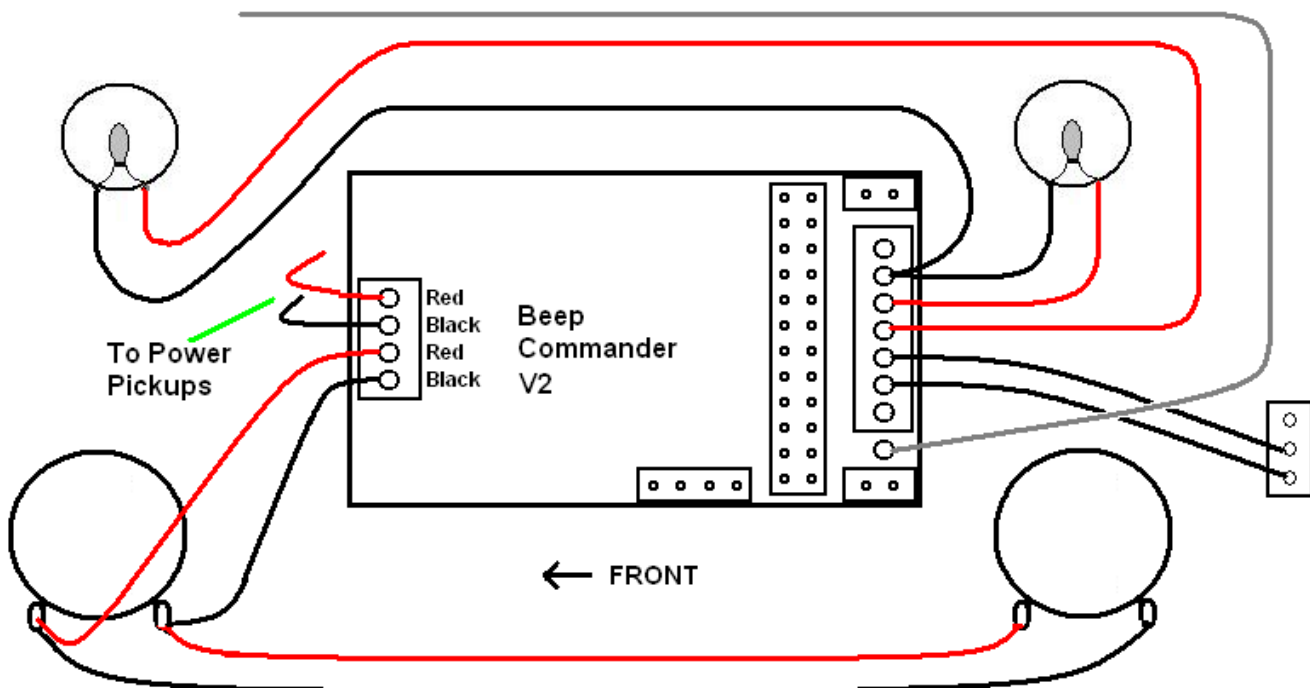

Figure 3
NOTE: Take your time while wiring, strip each wire to $\frac{1}{4}$ " and twist the ends, use your needle nose pliers or tweezers to place the wires; patience is required to make all the connections as shown in Figure 3. Do not over-tighten the screw terminals, or they may break off.
5. Slip the provided new lamp sockets into the holders; the socket with the long leads goes in the front. Trim the pre-tinned leads to $\frac{1}{4}$ " and attach as shown in figure 3. After wiring, screw in the lamps on the front and rear lamp sockets. NOTE: use the original lamps if possible.